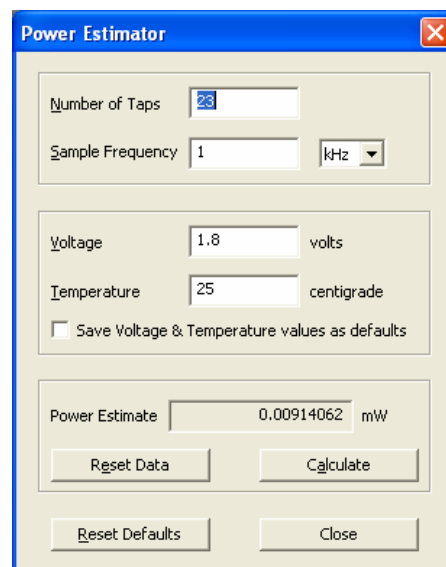

Figure 16
The power estimate gives you an indication of how much power the chip will consume in this configuration when running. The power drawn will vary as a function of number of taps used and sampling frequency. Click on the calculator icon to bring up a tool to allow you to explore the effects of these changes, as well as variations in supply voltage and operating temperature (Figure 16)
- Click on the **Open** (folder) icon at the top of the screen (Figure 16).